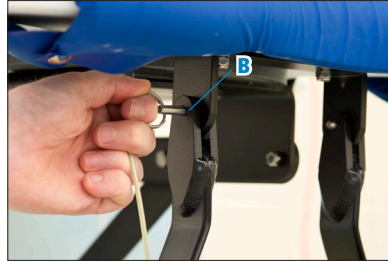

Figure 8b
Figure 8b: To remove the kneeboard, pull out the four quick-release pins (B) underneath the trunk board. To install the kneeboard, line up the braces and insert the pins.